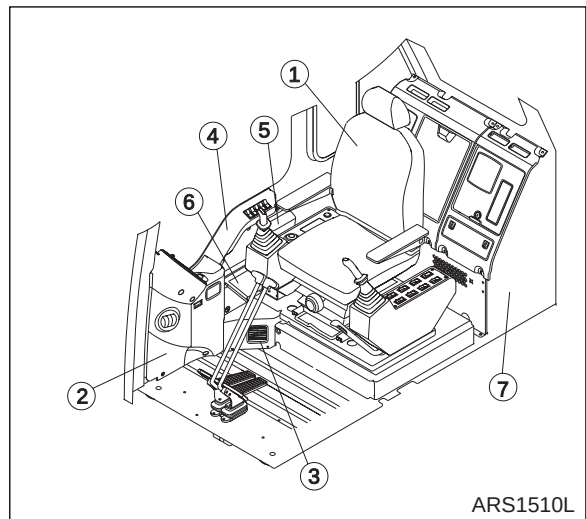

Figure 13
16. Install cover (4, Figure 13) and connect main harness. Install cover (3, Figure 13). Connect hour meter connector and cigar lighter connect of cover (2, Figure 13).
17. Install cover (2).
18. Install operator's seat (1, Figure 13).